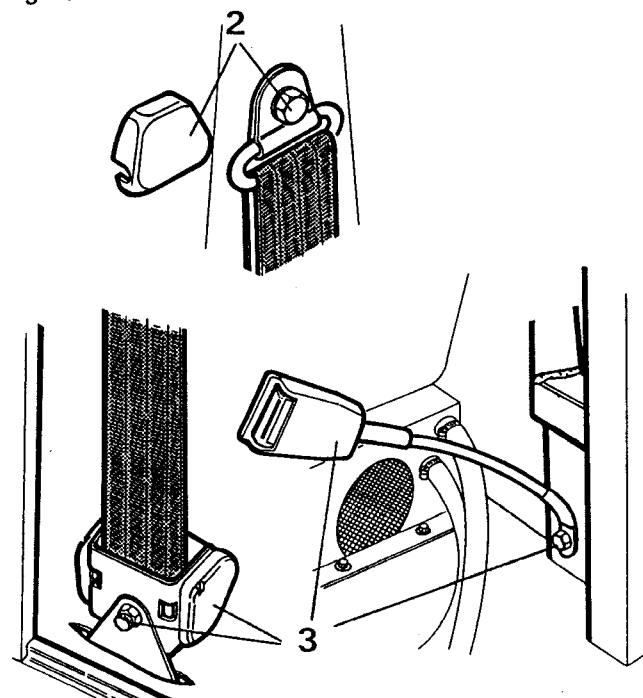

Figure 2
1. The drivers restraint consists of a floor mounted inertia reel unit with an anchorage point located on the side pillar, and a floor mounted buckle release unit. See figure 2.